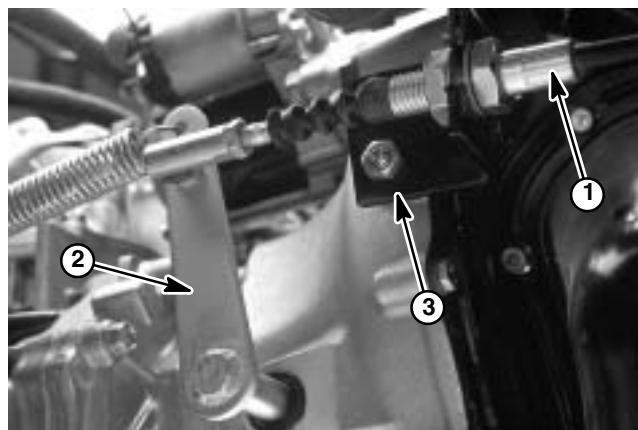

Figure 15
8. Disconnect clutch cable from clutch release lever, then loosen jam nut to remove clutch cable from support bracket (Fig. 15).